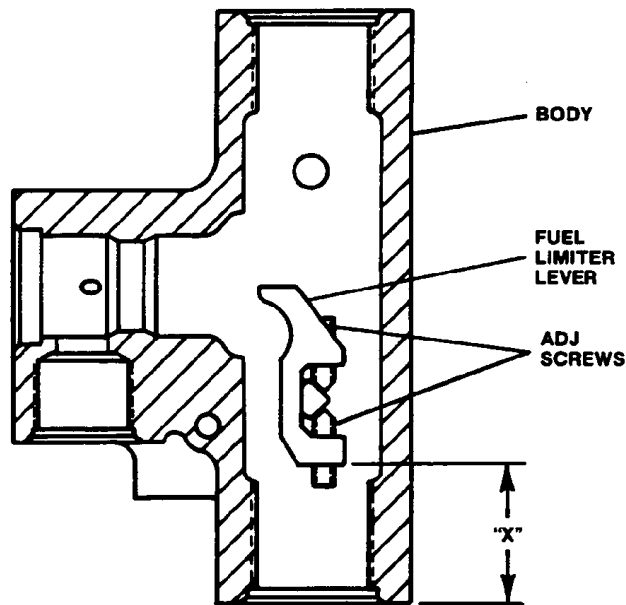

Figure 4-1. Measurement of Fuel Limit Lever Position
4. Do not turn screw (15) in spring seat (14). If the screw must be removed, make necessary measurements to assure that it can be replaced in its original position.
5. Record the position of eccentric (31) before removing it.
6. Loosen one adjusting screw only, to remove fuel limiter lever (see Figure 4-1). The other screw maintains the correct position for reassembly.
7. If both adjustment screws are removed, measure "X" dimension (Figure 4-1) to assure that these parts can be replaced in their original positions.